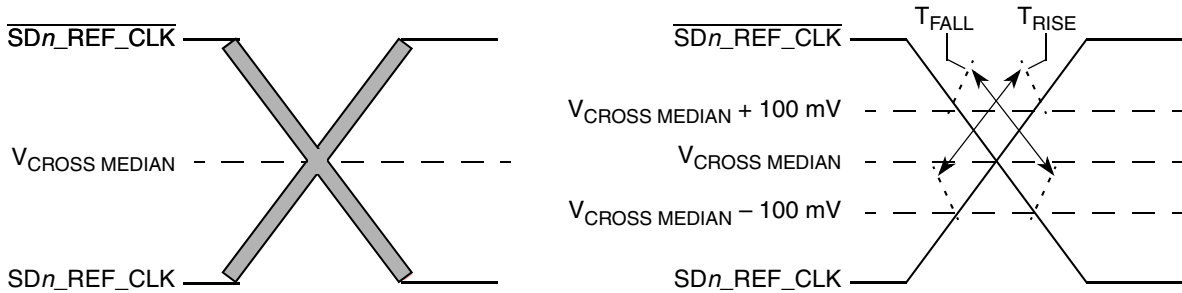

Figure 38. Single-Ended Measurement Points for Rise and Fall Time Matching
- Matching applies to rising edge for SD_REF_CLK n and falling edge rate for $\overline{\text{SD_REF_CLK}}_n$. It is measured using a 200 mV window centered on the median cross point where SD_REF_CLK n rising meets $\overline{\text{SD_REF_CLK}}_n$ falling. The median cross point is used to calculate the voltage thresholds that the oscilloscope uses for the edge rate calculations. The rise edge rate of SD_REF_CLK n must be compared to the fall edge rate of $\overline{\text{SD_REF_CLK}}_n$, the maximum allowed difference should not exceed 20% of the slowest edge rate. See Figure 38.